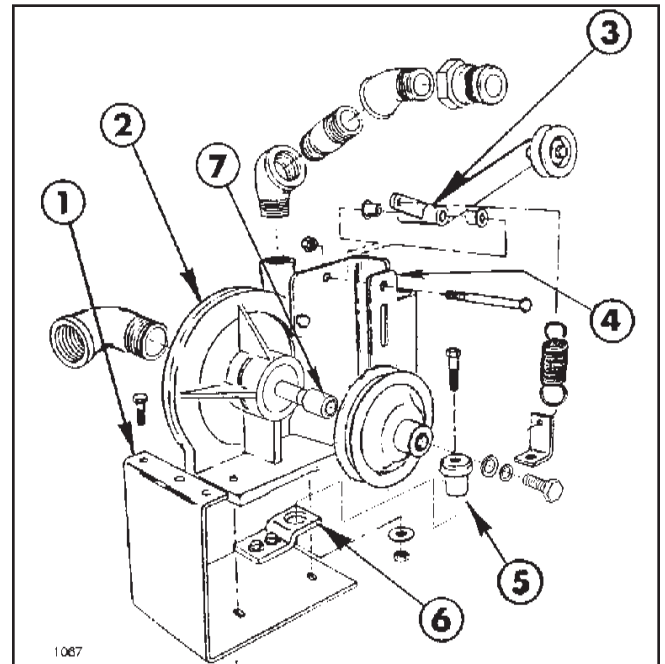
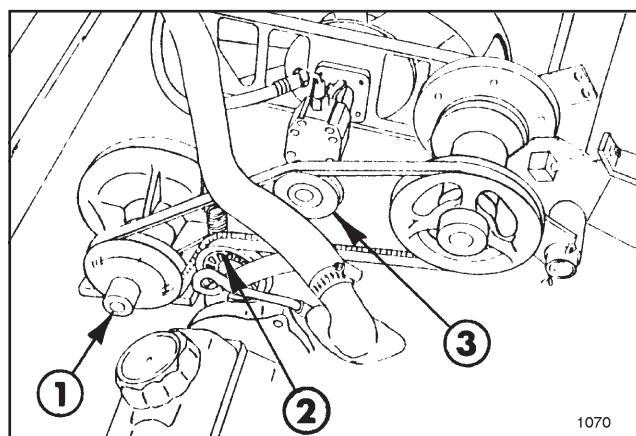

FIG. 2
**FIG. 4**
1. Slide Pulley Spacer onto the pump shaft and install Square Key into pump shaft keyway. Place the Pump Pulley on the pump shaft and secure with a 5/16" x 3/4" hex hd. cap screw, 5/16" I.D. 10 GA. flat washer, and lockwasher. See FIG. 2.
2. Attach the Idler Pivot Bracket to the Pump by removing the two pump housing bolts and replace with the (2) 3/8"x 1" hex hd. cap screws (FIG. 2).
3. Install one flange bushing into each end of the Idler Pivot assembly tube and attach to the Idler Bracket using the 3/8" x 3" hex hd. cap screw and locknut (FIG. 2).
4. Mount the small Inside Idler Pulley on the long arm of the Idler Pivot Assy. using the 3/8" x 2-3/4" hex hd. cap screw, 7/8" spacer, and locknut. **Shim as required between Idler Pivot Assy and Inside Idler Pulley with the (3) 3/8" flat washers to align with Pump Pulley.** Attach the Tension Spring to the short arm of the Idler Pivot Assy. See FIG. 2.
5. Apply sealer and install the 90° x 1-1/4" street elbow into the suction port of the Pump. Apply sealer and install 1"x 3" nipple, (2) 45° x 1" elbows, and Quick Adapter into the discharge port of the Pump (FIG. 2).
6. Install the Rubber Mount into the Tab Mount and loosely attach the Tab Mount to the Pump Mounting Bracket using the (2) 3/8" x 1" hex hd. cap screws, flatwashers, and locknuts (FIG. 2).
7. Attach the Pump Mount Bracket assembly to the left side of the vehicle frame using the (3) 5/16" x 1" hex hd. cap screws, lockwashers, and hex nuts (Fig. 4). Insert the 3/8" x 1-1/2" hex hd. cap screw through the Rubber Mount and attach to the vehicle frame member using the 3/8" I.D. 10 GA. flat washer, and locknut (FIG. 2). Tighten all fasteners securely.
9. Mount the Pump and the Spring Tab to the Mounting Plate using the (2) 3/8" x 1-1/2" hex hd. cap screws, flat washers, and locknuts. Attach the Tension Spring to hole in Spring Tab (FIG. 2).
10. Apply thread sealer and install 1-1/4" close nipple, Suction Strainer, 90° st. elbow, reducing nipple and Quick Adapter into the suction side of the Pump (FIG. 4).